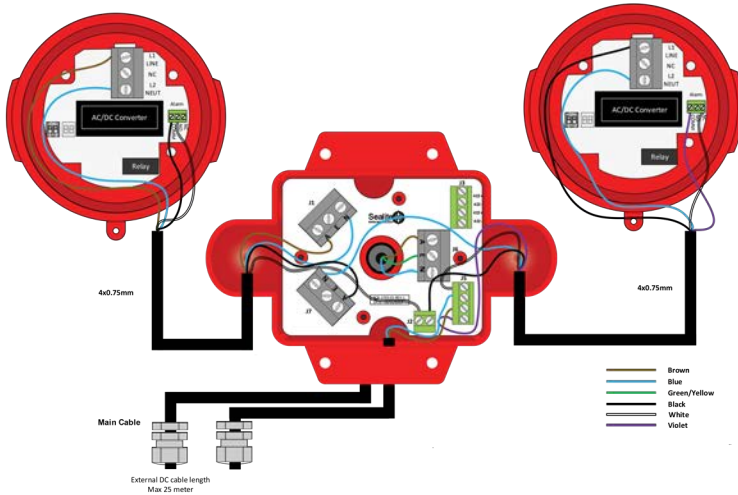

Figure 2. DC Wiring Diagram
1. Open the top lid by removing a locking pin and nut from one side of the lid. Wire the light and connect the incoming power cable to the terminal block. Refer to figure 2